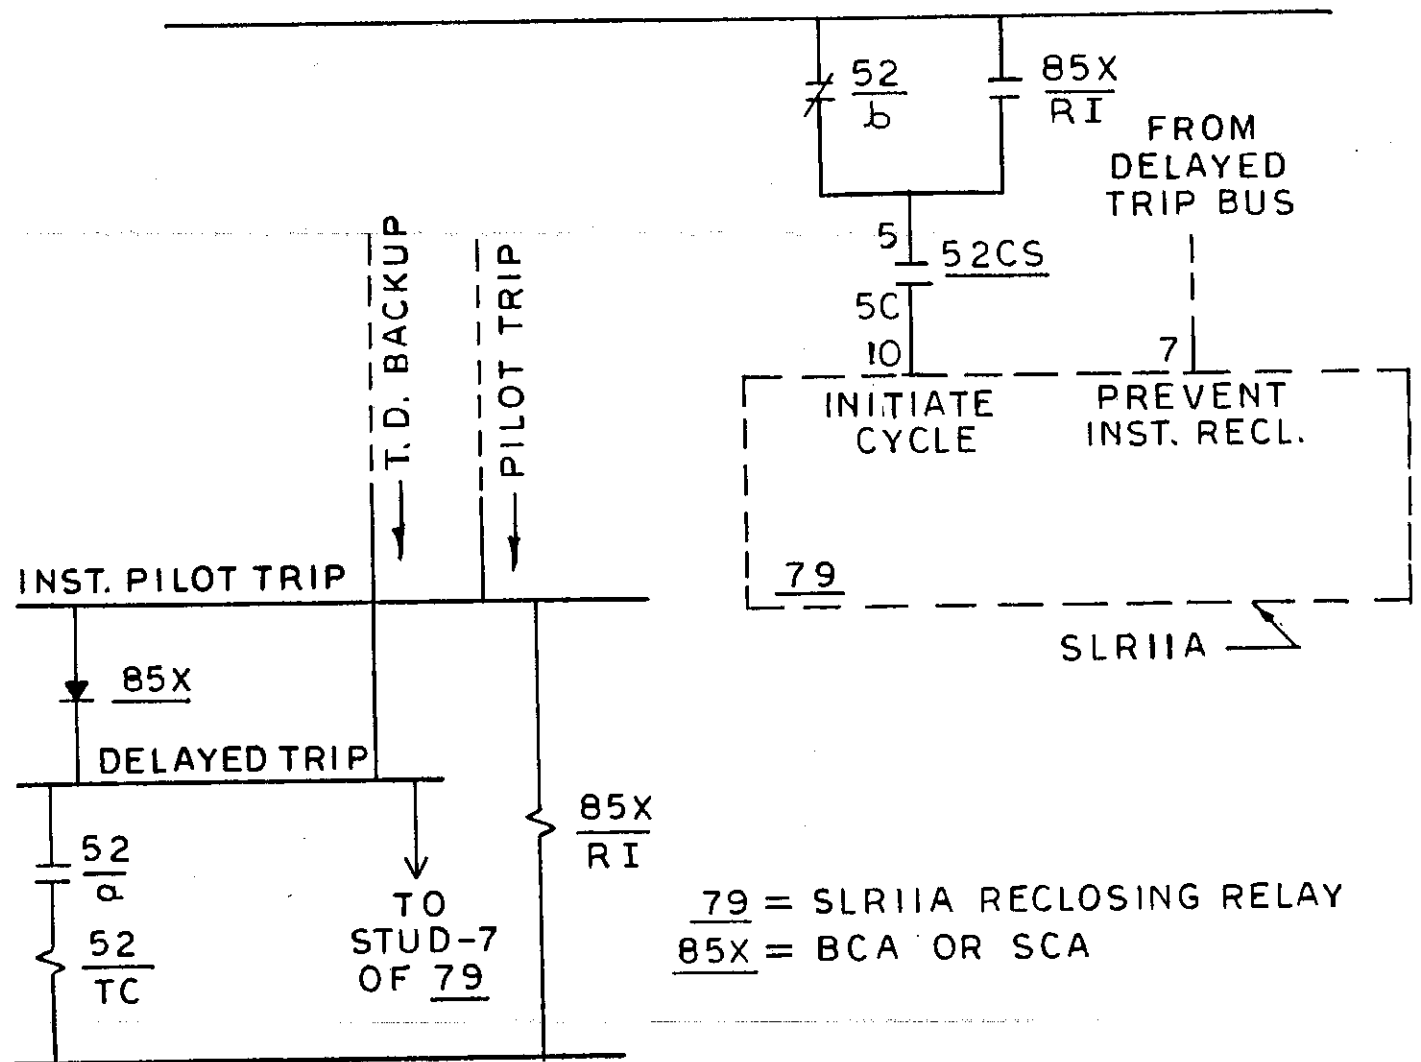

Fig. 4 (0285A6293-0) RI and Delayed Trip Diagram
- Fig. 4 RI and Delayed Trip Diagram